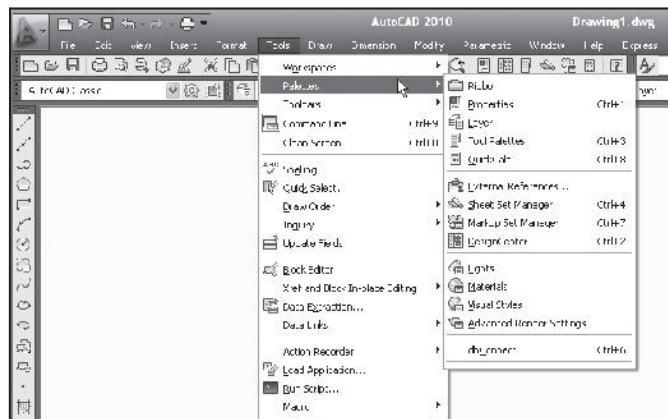

Fig. 3-9
6. From the **Tools** pull-down menu, move the pointer to the **Palettes** option, and notice the different options available in the cascading menu, as shown in Fig. 3-9.